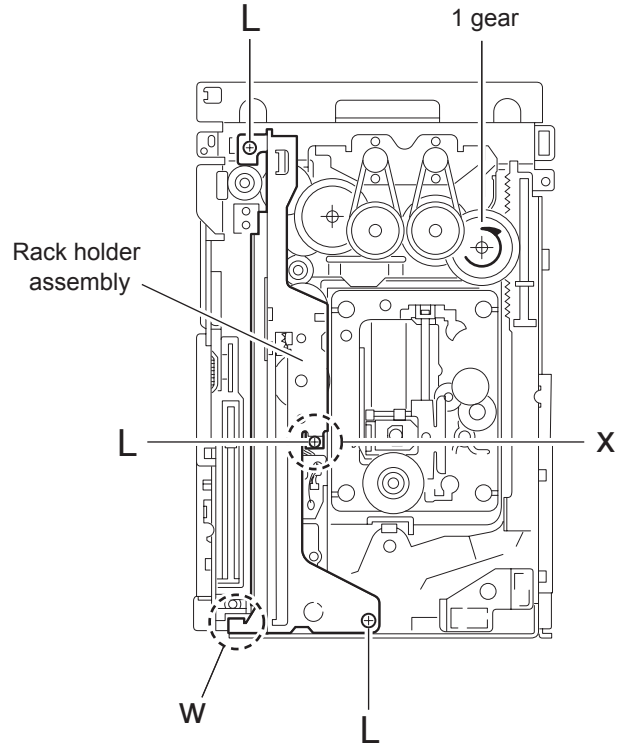

Fig.28
3.3.10 Removing the rack holder assembly/ sensor assembly (See Fig.28 ~ 33)
- Prior to performing the following procedure, remove the tray assembly, side (L)/ side (R) assembly, lifter assembly.